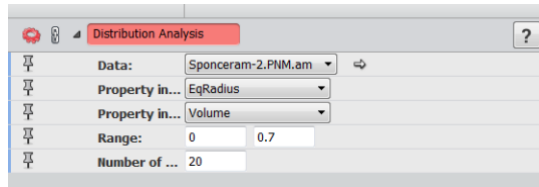

Figure 17.20: Distribution Analysis
- Set the parameters as shown in Figure 17.20 and click **Apply**.